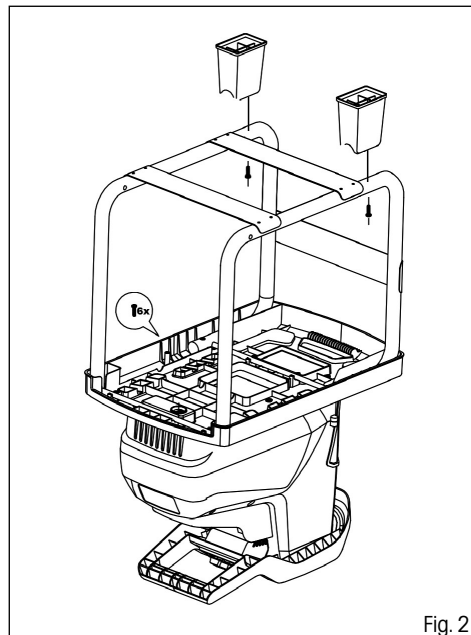

Fig. 2
1. Turn the shredder unit upside down and place it on an even floor. Then place the frame on it and securely attach it using the 6 included screws. Then attach the shredder legs (Fig. 2).